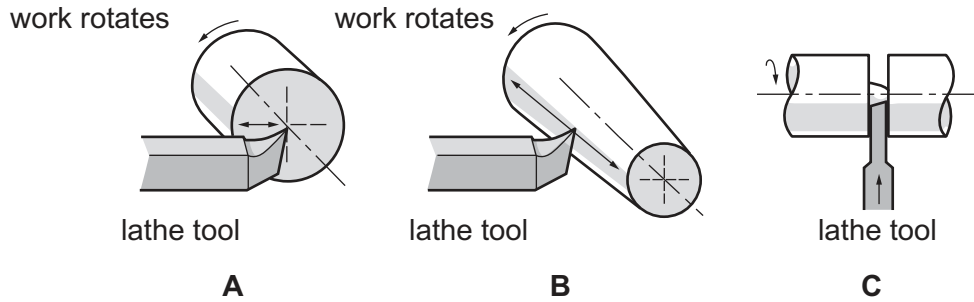

Fig. 12.5
- (e) The mild steel weight could be produced on a centre lathe. Fig. 12.5 shows three lathe operations, **A**, **B** and **C**, that could be used to produce the mild steel weight.